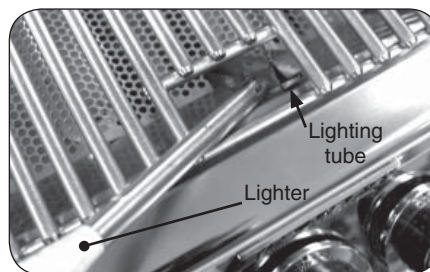

Fig. 15-2 - Manual lighting
Note: If the burner must be lighted manually, visually inspect the ignitor in the lighting tube (Fig. 15-2) while holding down the ignitor button. If it does not glow orange, check the electrical connections.
2. Insert either a burning long-barrel butane lighter or a burning long-stem match through the cooking grid opening to the top of the lighting tube. (Fig. 15-2). For backburners, hold the flame against the perforated material of the backburner.
4. If the burner does not light, **immediately depress the knob and turn the valve to OFF. WAIT FIVE (5) MINUTES** before repeating steps 2 through 4 of the MANUAL LIGHTING instructions.